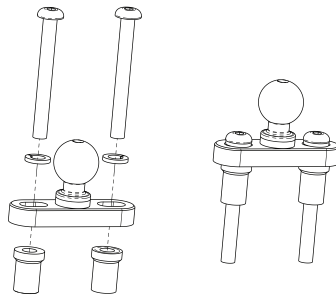

Figure 2
4. Using the appropriate hex key, assemble the Base to the Clutch or Brake Assembly with the M5 Screws, M5 Lock Washers, and M5 Spacers or M6 Screws, M6 Lock Washers, and M6 Spacers as shown in Figure 2.